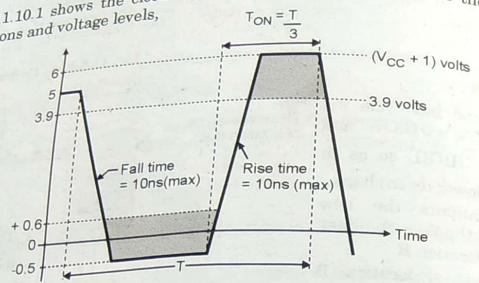

Fig. 11.10.1 : Clock signal required by 8086/8088
- Fig. 11.10.1 shows the clock signal durations and voltage levels, $T_{ON} = \frac{T}{3}$